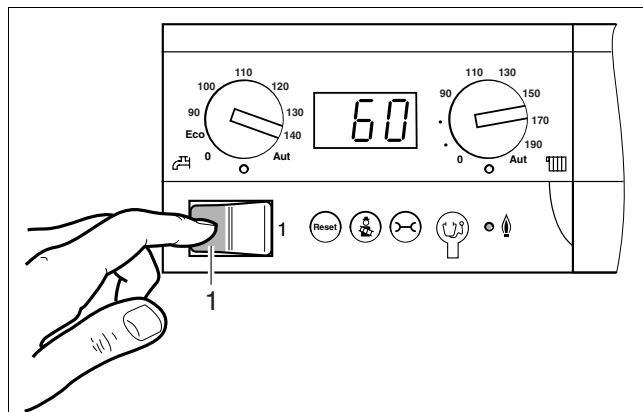

fig. 1 Mains switch
- Switch off the heating system using the main switch (fig. 1).
- Switch on the heating system by setting the main switch to position "1" (see fig. 1, page 5).